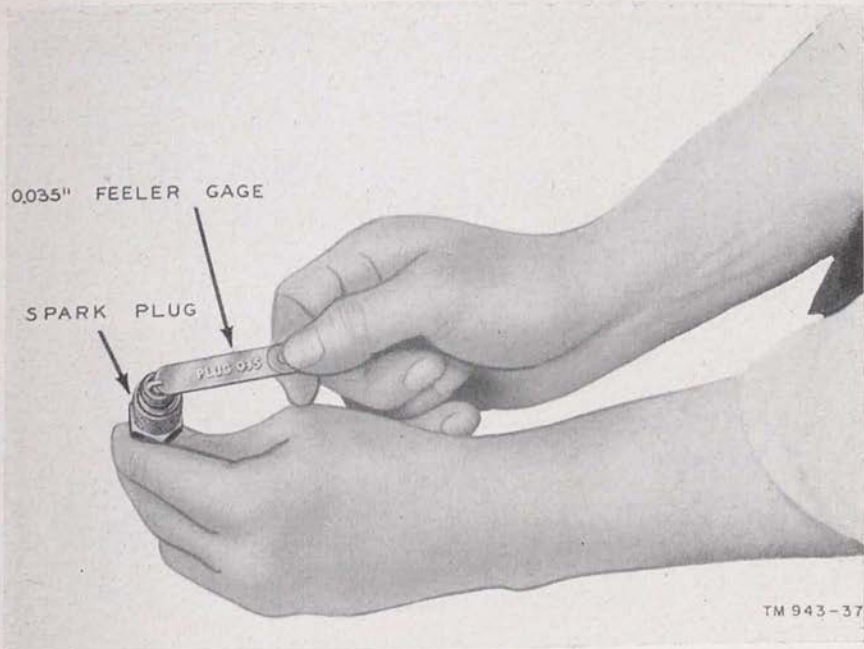

Figure 37. Checking spark plug gap.
- (1) With a small punch, drive out the upper brass pin in the plunger and remove the spring.
- (2) Insert the large end of the new spring in the plunger and install the brass pin in the plunger and through loop in the lower end of the spring. Lightly peen the pin ends to secure them and file the pin ends sufficiently to secure necessary clearance.
Clean the spark plug with solvent (SD) and set the gap to .035 inch (fig. 37). Make the adjustment by bending the side electrode only.